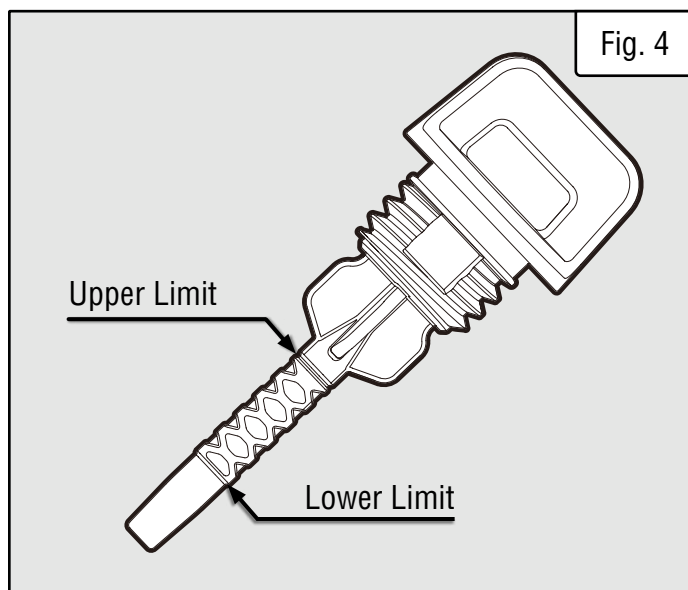

Fig. 4
3. Insert the dipstick into the oil fill without screwing it in. Remove the dipstick to check the oil mark (Fig. 4).